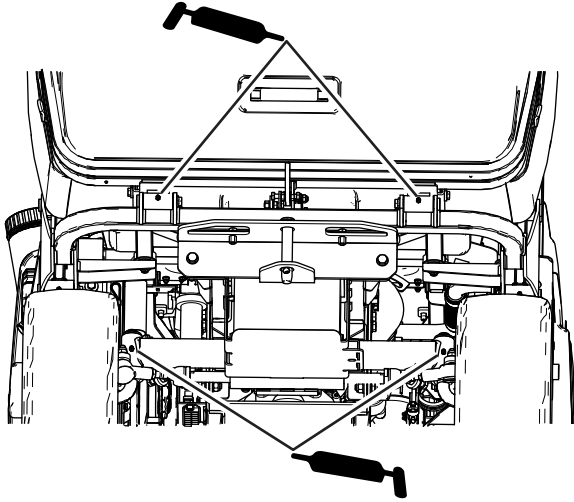

Figure 44
- Hopper pivots and steering pivot points (Figure 44)